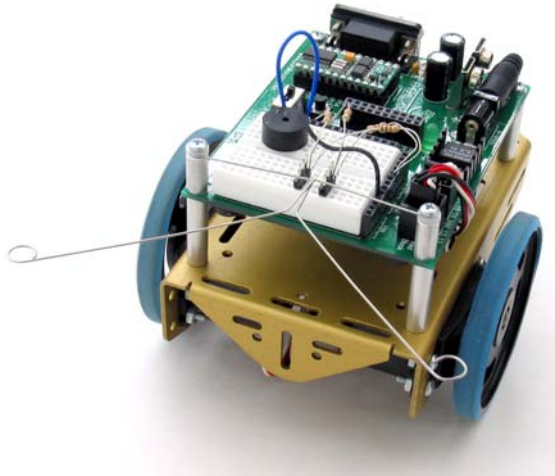

Figure 5-1
The whiskers are so named because that is what these bumper switches look like, though some argue they look more like antennae. At any rate, these whiskers are shown mounted on a Boe-Bot in Figure 5-1. Whiskers give the Boe-Bot the ability to sense the world around it through touch, much like the antennae on an ant or the whiskers on a cat. The activities in this chapter use the whiskers by themselves, but they can also be combined with other sensors you will learn about in later chapters to increase your Boe-Bot's functionality.
- ✓ Gather the whiskers hardware shown in Figure 5-1.